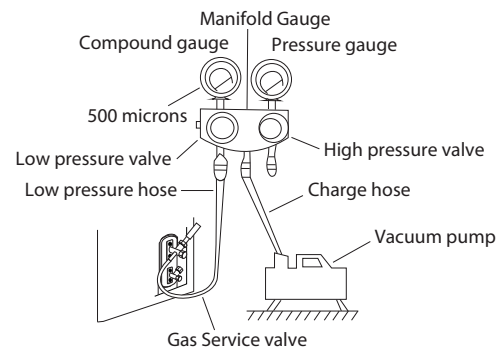
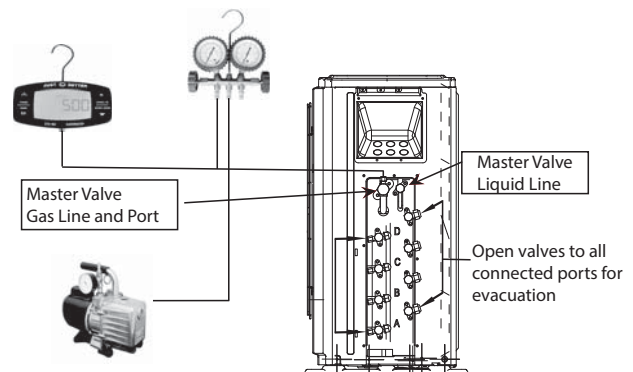

FIGURE 19 – Manifold Gauge
FIGURE 20 – Manifold Sizes 27-36
For sizes 27-36, connect the manifold gauge (low side hose) to the Master service valve (5/16 in port, use the adapter to fit a 1/4 in. hose) to evacuate all circuits at the same time (see Fig. 20).
5. Open (fully) the low pressure valve of the manifold gauge (see Fig. 19 for size 18. Fig. 20 for sizes 27-36).